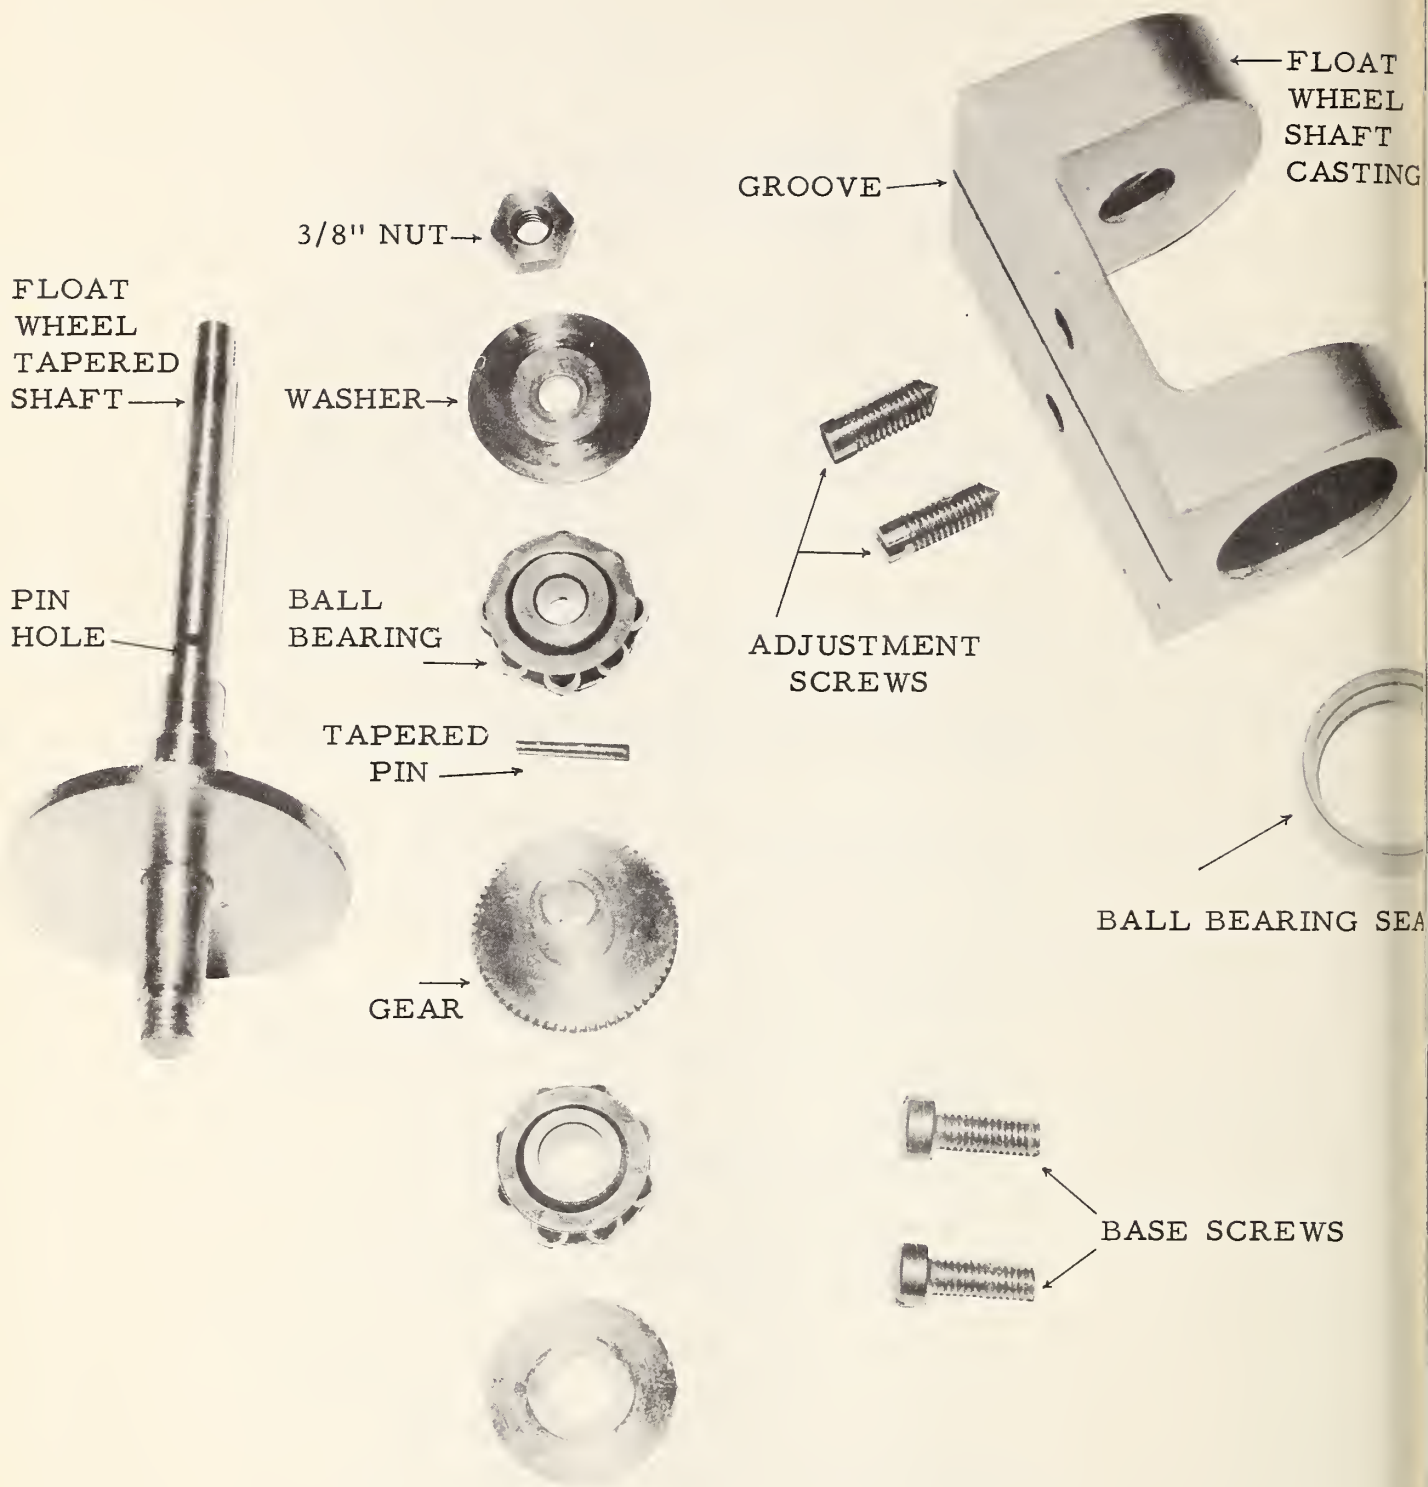

Figure 3.--Type A. Float wheel shaft, detail of parts.
18. Float wheel shaft (figs. 3 and 4):